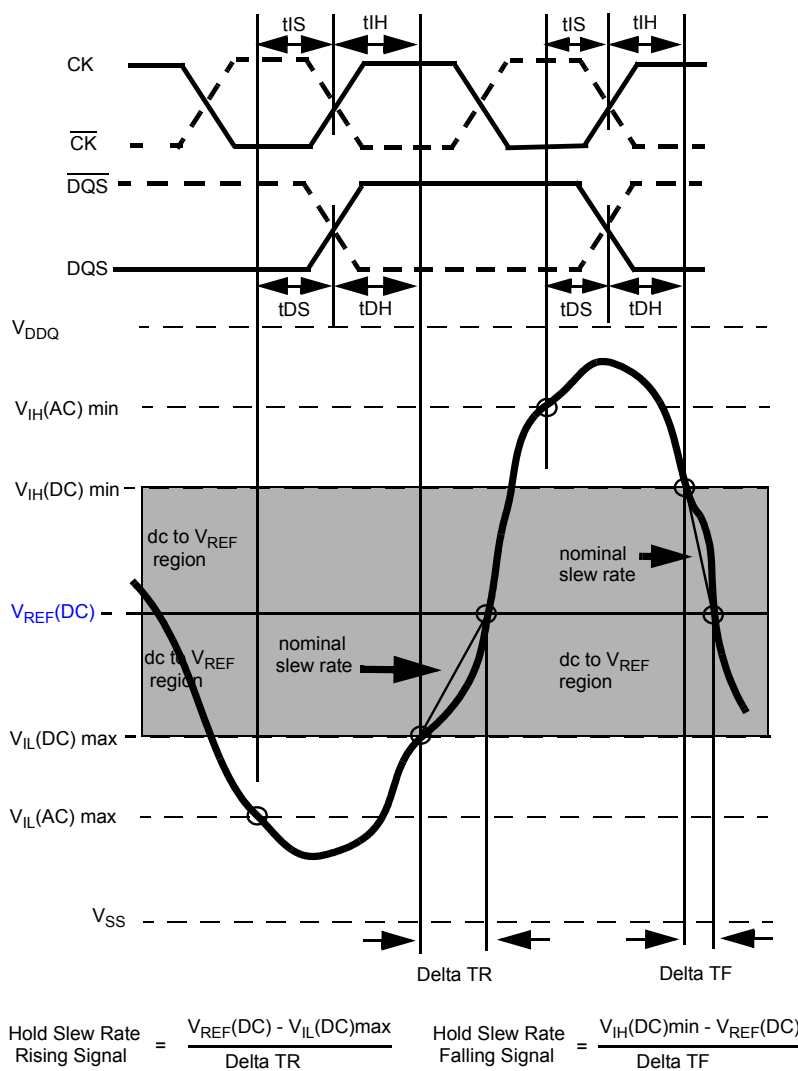
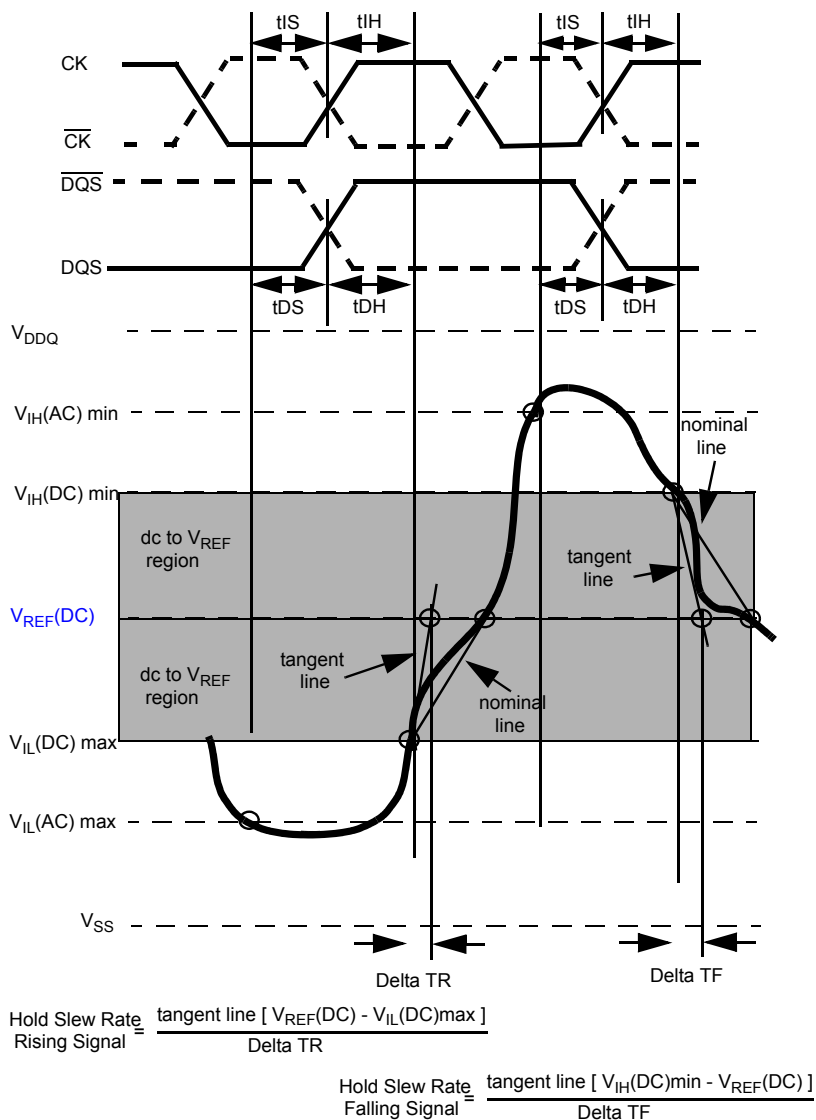

Figure 26 - Illustration of nominal slew rate for hold time tDH (for DQ with respect to strobe) and tIH (for ADD/CMD with respect to clock).
Figure 28 - Illustration of tangent line for hold time tDH (for DQ with respect to strobe) and tIH (for ADD/CMD with respect to clock)
Hold (tDH) nominal slew rate for a falling signal is defined as the slew rate between the last crossing of V_{IH}(DC)min and the first crossing of V_{REF}(DC) (see Figure 26). If the actual signal is always later than the nominal slew rate line between shaded 'dc level to V_{REF}(DC) region', use nominal slew rate for derating value. If the actual signal is earlier than the nominal slew rate line anywhere between shaded 'dc to V_{REF}(DC) region', the slew rate of a tangent line to the actual signal from the dc level to V_{REF}(DC) level is used for derating value (see Figure 28).